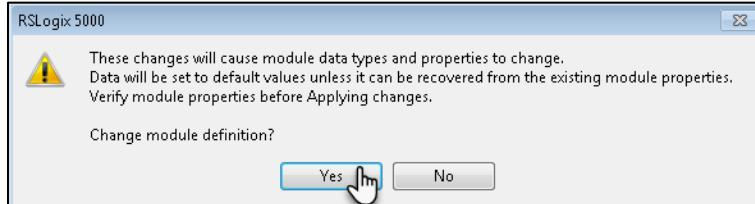

Figure 26: Module Definition Validation Window
- Click on **Yes** to apply changes to the module (see **Figure 26**).